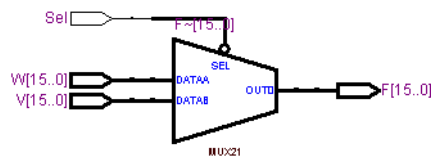

Figure 30: The multiplexer subcircuit.
- Details of subcircuits can be seen by clicking on the box that represents a subcircuit. Double click on the *mux2to1* box to obtain the image in Figure 30. It shows the multiplexers used to choose either the *Areg* or *Z* vector as one of the inputs to the adder, under control of the *SelR* signal. Observe that the multiplexer data inputs are labeled as specified in the Verilog code for the *mux2to1* module in part *b* of Figure 12, namely as *V* and *W* rather than *Areg* and *Z*.